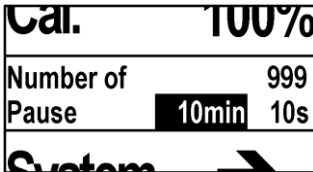

Fig. 46: Setting menu
- ➔ The display in Fig. 46 appears